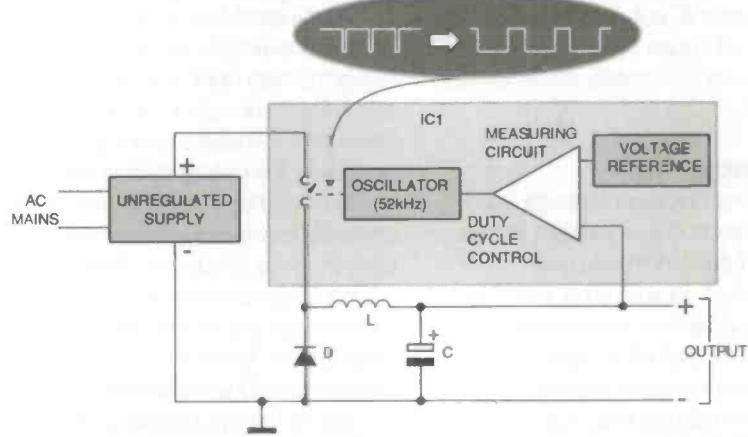

Fig 1. 3.5A output from 1A input - it is possible!
**I**magine a regulator that will produce a regulated output with more current than the input. Let's take it a stage further: imagine being able to get several different voltages from one input unregulated supply, at high efficiency. Take a look at Figure 1, which shows a 40V 1A unregulated supply feeding three switching regulators giving a total of 3.5A of current at different voltages. Yes, 3.5A is perfectly possible from a 1A unregulated supply. The power is fine: the total input power is 40W and the output power is 29.5W, and the efficiency is just under 75%.